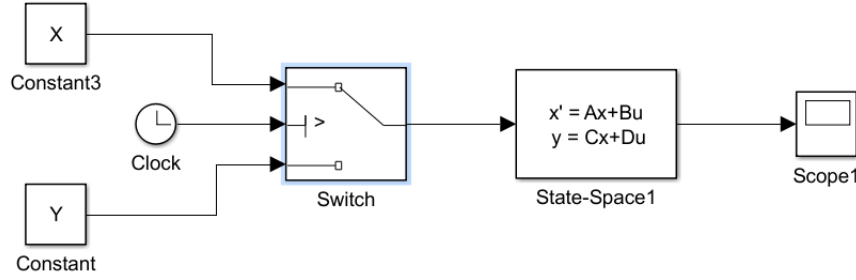

Figure 2
- (d) Set the parameters as $(m = 1\text{kg}, b = 0.2\text{Ns/m}, k = 1\text{N/m})$. Run the simulation for an input force whose value is equal to 1N in $t = [0, 20)$ and 0N elsewhere. To build such an input signal you are allowed to employ only *Clock* and *Switch* blocks. Your model should look similar to the one illustrated in Fig. 2. **Insert the plot demonstrating the output signal into your report. You are asked to submit**